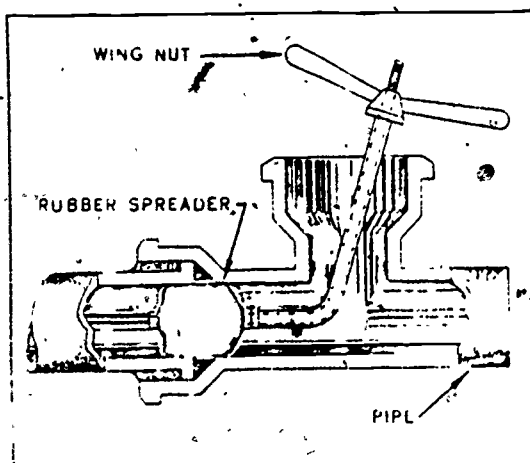

Figure 3-55. Test plug.
**Test plug.** Use a test plug to seal open ends of a soil pipe installation before you fill the pipe with water for testing the joints for leaks. A test plug is shown in figure 3-55. The plug consists of a wide flexible rubber spreader which is set between two metal discs. By turning the wing nut, the metal discs are forced together by means of a sleeve. The rubber is forced firmly against the pipe marking a tight seal.